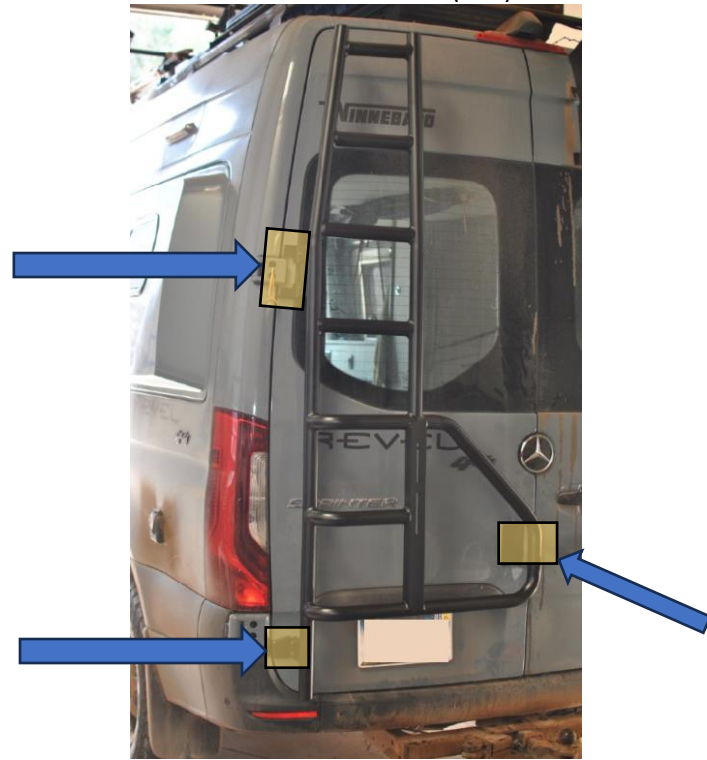

Figure 3: Protective Tape Locations on Door
5. Cut the supplied protective tape into shape using the templates at the end of the installation instructions to provide additional protection for the door. Each bracket is designed to contact only at the door edges, but enough protective tape is provided to cover the entire overlapping area. Make sure that the sticky side is oriented correctly while cutting and applying (white backing towards vehicle). Reference Figures 3 & 4.